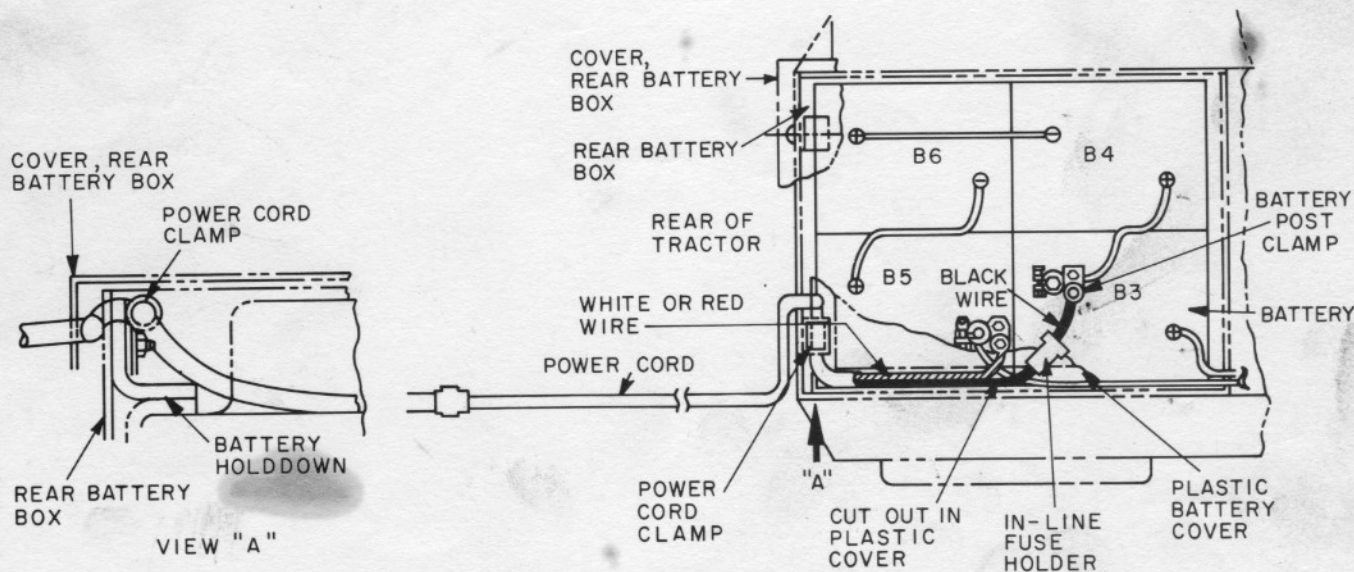

Figure 1. Power Cord Wiring.
3. Attach power cord wires as illustrated in Figure 1. Observe color coding for connections.